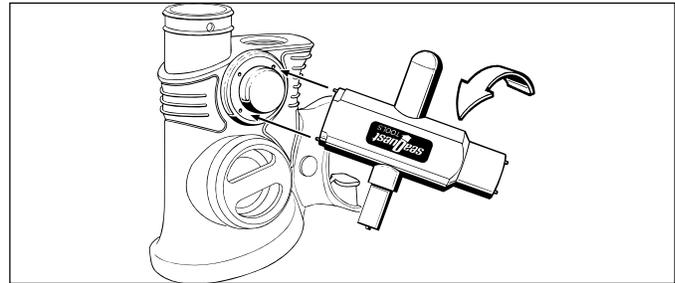

Figure 6
1.1.20 Mate the pins on the large end of the Air Source T-Tool into two opposing holes in the inflator bezel(36). (See Fig. 6.) While holding the tool securely engaged, turn the bezel counter-clockwise to loosen and remove the bezel, inflator button(34), inflator button cover(35), and spring(33). Separate the button and button cover from the bezel, and set the button aside.